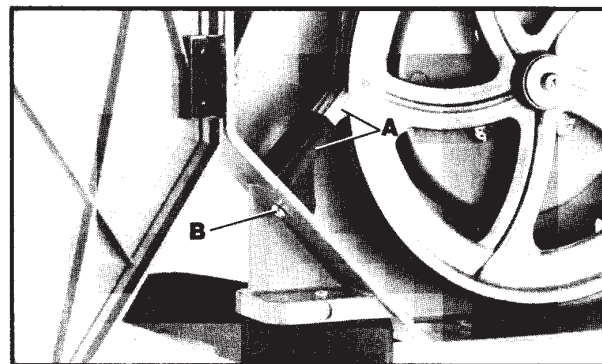

Fig. 32
A blade and wheel brush (A) Fig. 32, is supplied inside the band saw frame to prevent sawdust and chips from traveling with the blade. The brush can be adjusted by loosening screw (B) and adjusting holder (A) closer to the wheel. Then tighten screw (B).